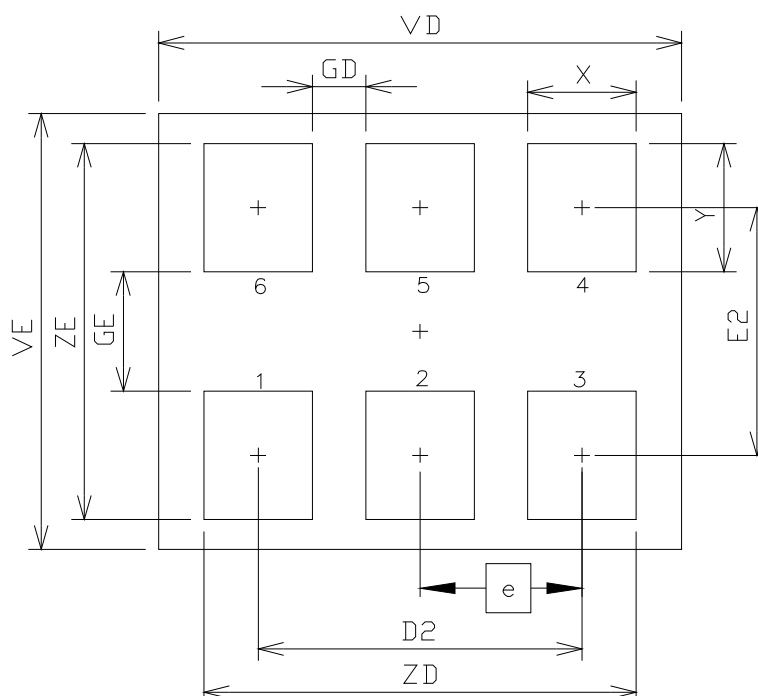

Figure 3. Si590/591 PCB Land Pattern
Figure 3 illustrates the 6-pin PCB land pattern for the Si590/591. Table 12 lists the values for the dimensions shown in the illustration.
- Updated Figure 3 and Table 13 on page 10 to reflect specific marking information.